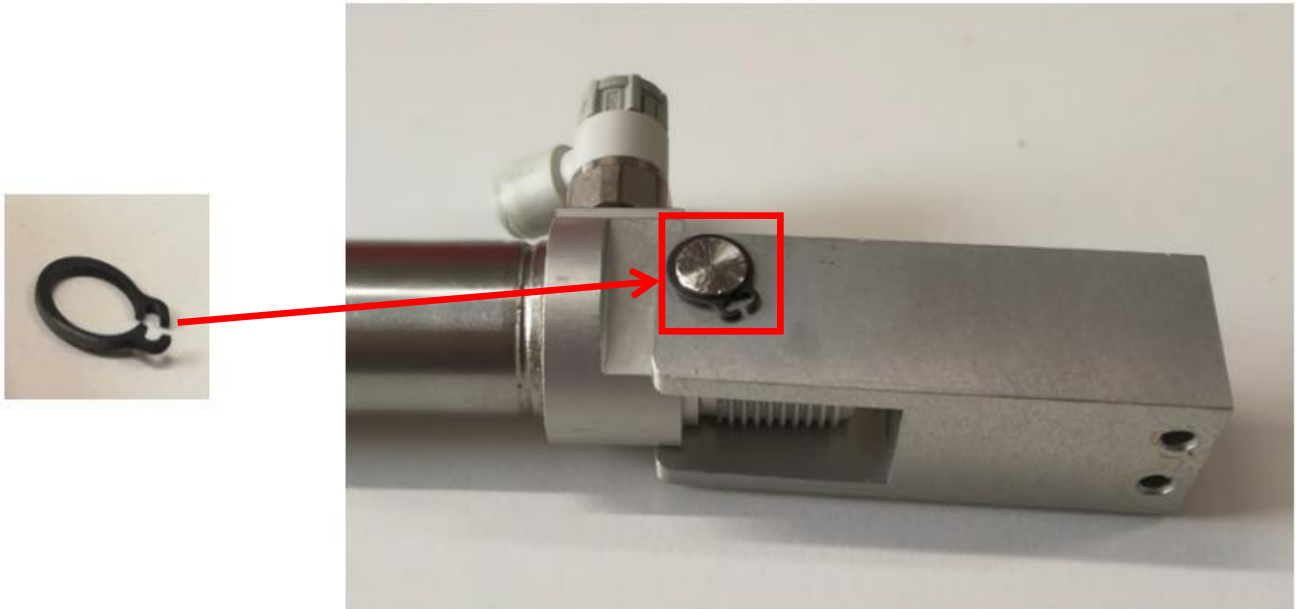

Figure 17
21. Twist the Rear Cylinder Holder & assemble C-Clip at other side of Dowel Pin as Figure 17